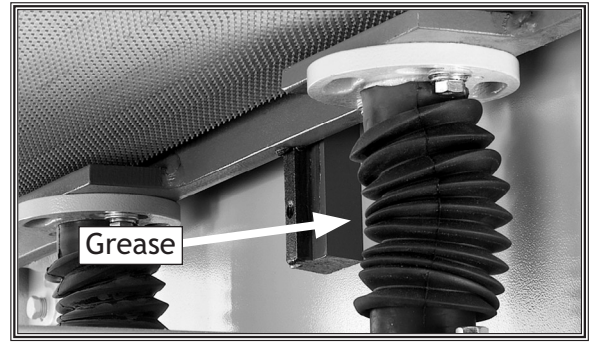

Figure 25. Table elevation screw (shown with dust cover).
- **Monthly.** Pull the dust cover down and apply a generous amount of multi-purpose automotive grease to the table elevation screws (Figure 25). Be sure to re-position the dust covers when finished.